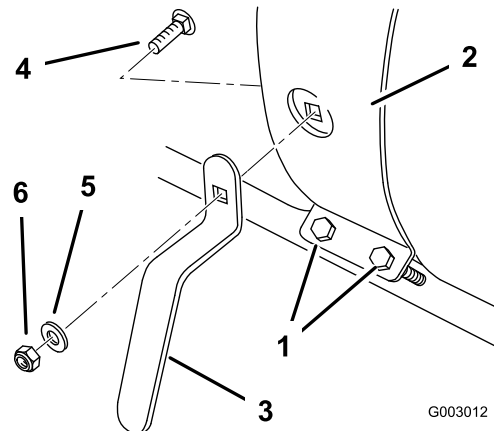

Figure 4
1. Remove the fasteners securing the right side of the rear tank strap (Figure 4).
2. Install the lower hose hook as shown in Figure 4 using a carriage bolt (5/16 x 3/4 inch), a washer (3/8 inch), and a flange nut (5/16 inch).